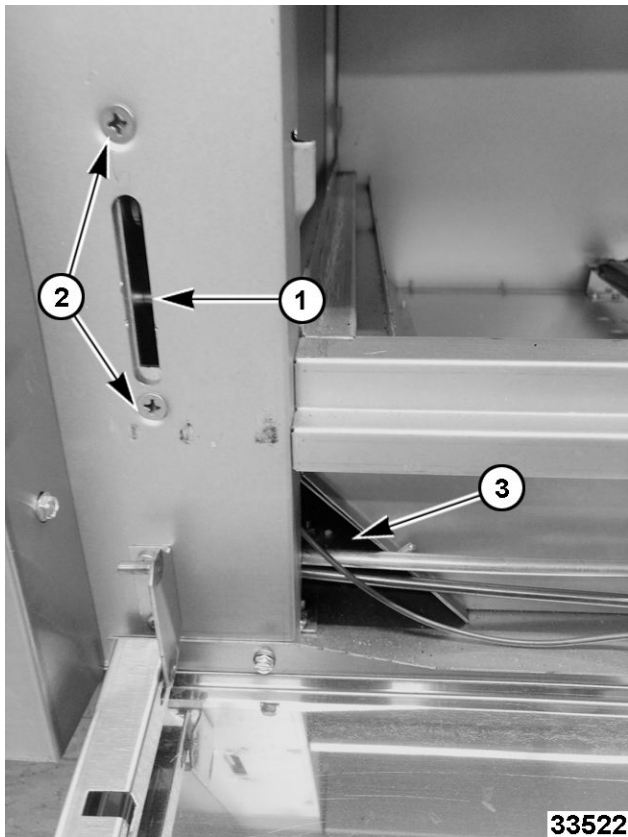

Fig. 41
2. Tie string or flexible wire around pin or roller (1, Fig. 41).
3. Remove stop bracket from oven frame (2, Fig. 41).
4. Slide stop bracket down cavity channel and out through opening (3, Fig. 41).